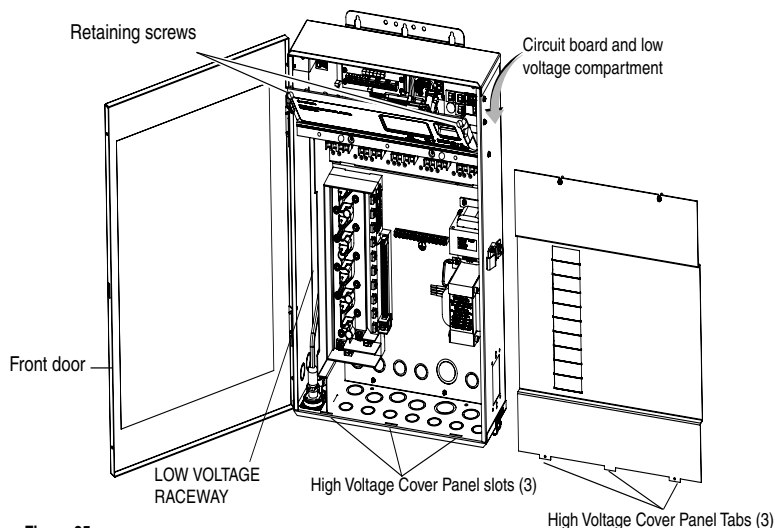

Figure 35
2. Unlatch the front door latch and open the front door. Remove the two retaining screws from the High Voltage Cover Panel and remove the panel. See **Figure 35**.
- 9. Secure the panel with the two (2) retaining screws. Close the front door and secure with the latch. See Figure 35 on page 34.